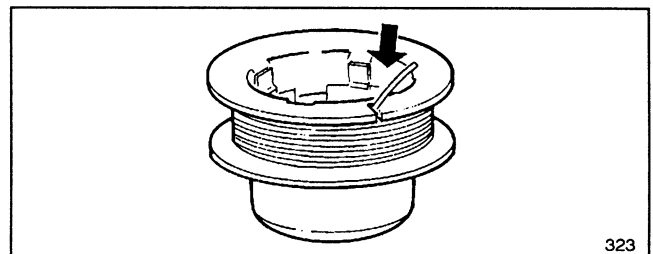

Figure 17
- C. Keep line tight on spool by securing in groove (Fig. 17).